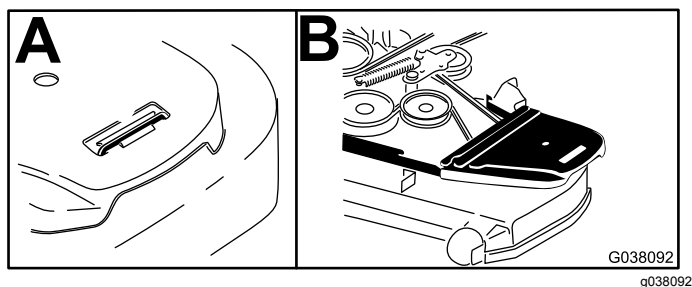

Figure 21
2. Remove the right belt cover (Figure 21).